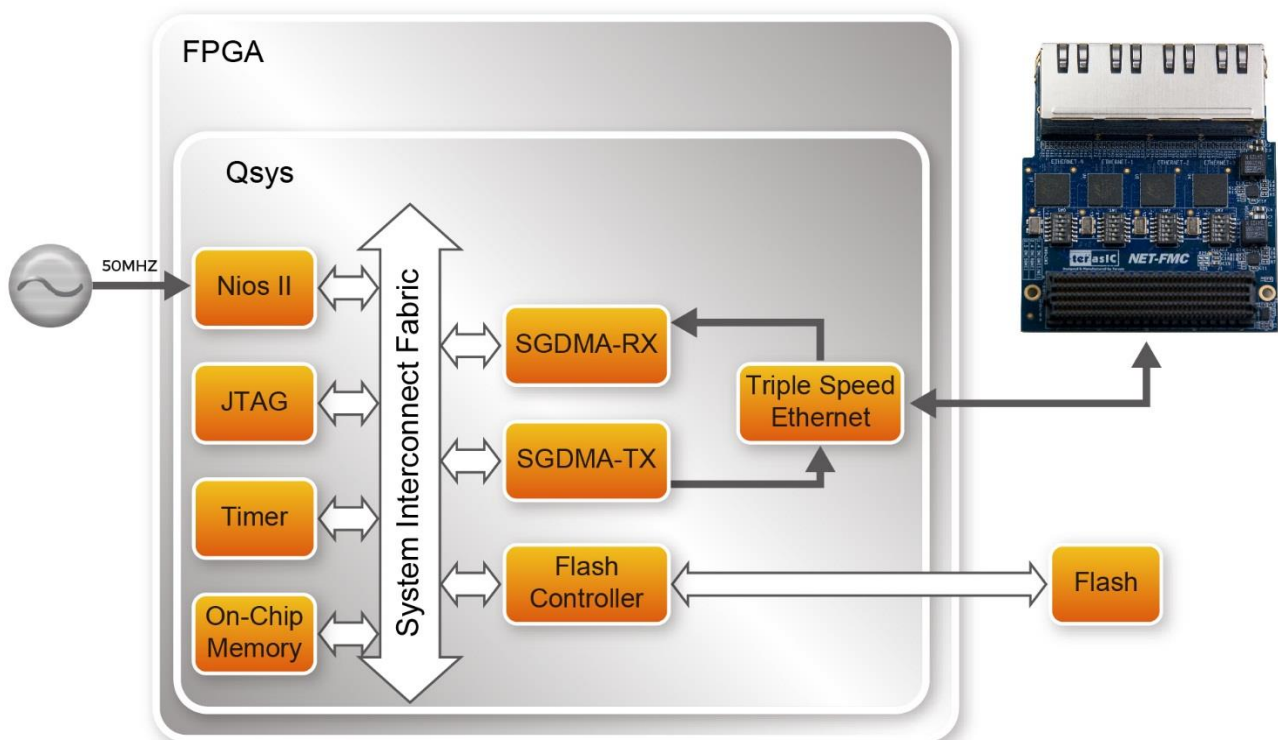

Figure 4-2 Function block diagram of remote-update portal demonstration
**Figure 4-2** shows the function block diagram of remote-update portal demonstration. Altera Triple Speed Ethernet is configured as 10/100/1000Mb Ethernet MAC with 1000BASE-X/SGMII PCS. A Generic Tri-state Controller(Flash Controller) is configured as a 1Gb Flash controller to connect the off-chip Flash chip. The SGDMA-RX and SGDMA-TX